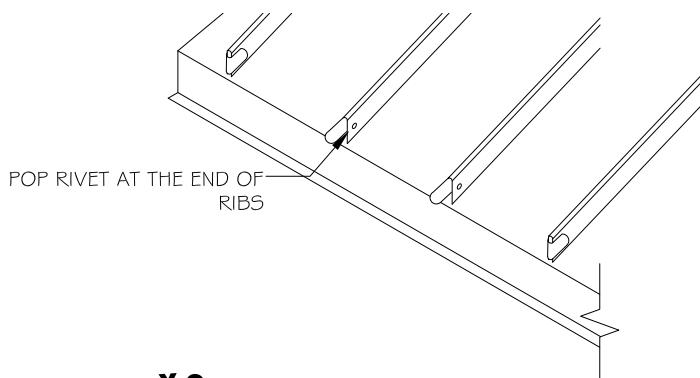

Fig. 4
6. Drill a small hole at the end of the standing seam rib. See Fig 4